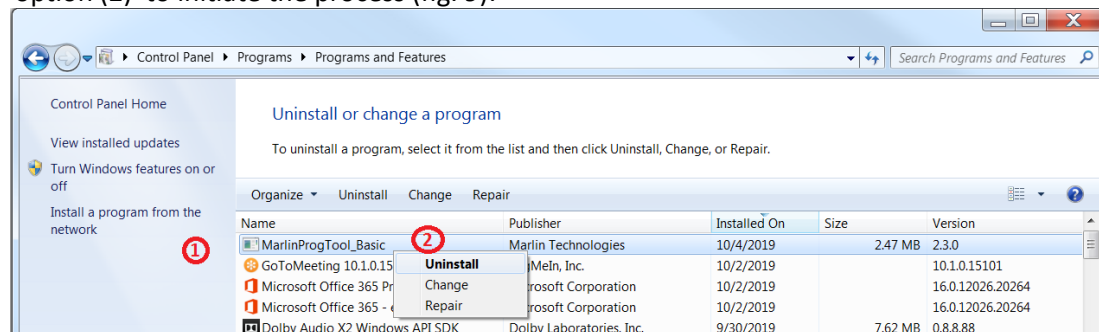

Figure 9: Uninstalling the application through the 'Control Panel'
Locate the installed 'MarlinProgTool' application (1), right mouse click on it, then left mouse click on the 'Uninstall' option (2) to initiate the process (fig. 9):